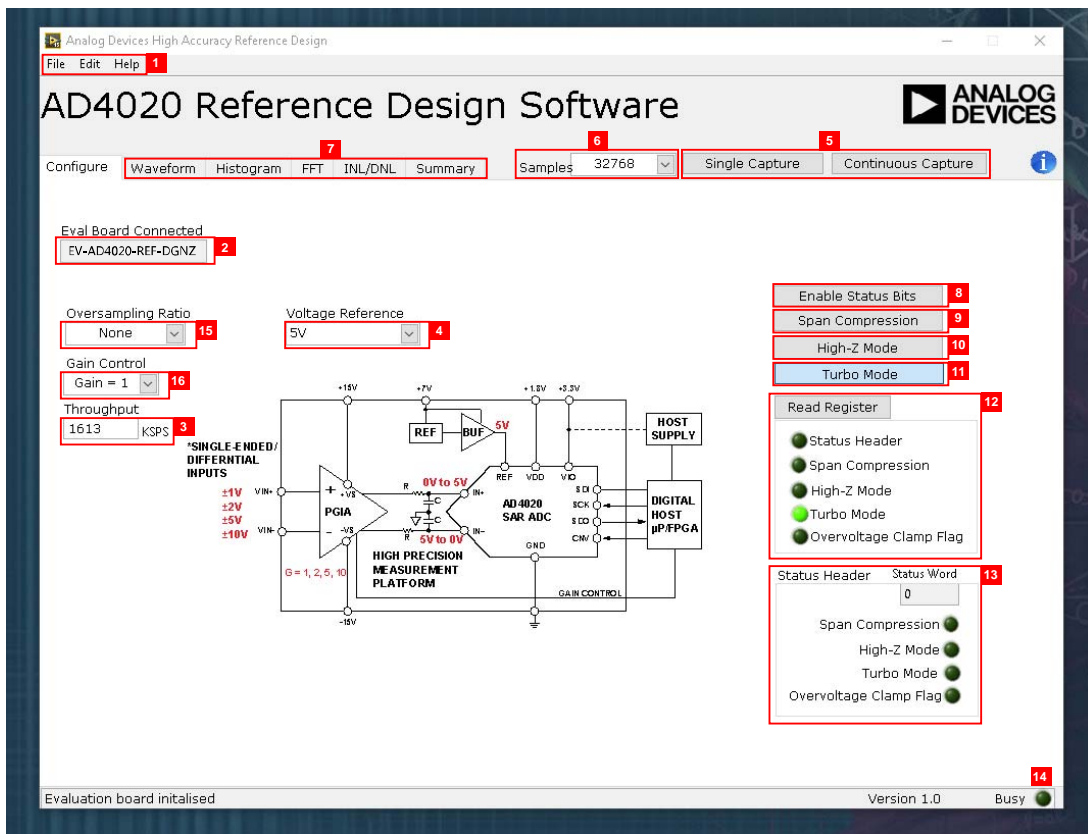

Figure 23. AD4020 Reference Design Software Setup Screen
4. When the EV-AD4020-REF-DGNZ reference design board is detected, the software panel opens and the AD4020 reference design software looks for the hardware connected to the PC. The AD4020 reference design software detects the generic device attached to the PC and the product panel launches, as shown in Figure 23.
The **File** menu (Label 1 in Figure 23) provides the following commands:
The **Edit** menu (Label 1 in Figure 23) provides the **Reinitialize to Default Values** command to reset the AD4020 reference design software to the initial state.
The **Help** menu (Label 1 in Figure 23) provides the following four options that offer specific information:
When hardware is connected to the USB port, the AD4020 reference design software automatically detects which generic board is connected and displays this board in the **Eval Board Connected** dropdown menu (Label 2 in Figure 23).
The **Throughput** pane (Label 3 in Figure 23) is where the user enters the throughput value. The default throughput (sampling frequency) is 1.75 MSPS. The minimum throughput is 10 kSPS. When the user enters a value larger than the ability of the existing device, the software reverts to the maximum throughput.
Clicking on the **Voltage Reference** dropdown menu (Label 4 in Figure 23) allows the user to select a reference value. By default, the reference is 5 V (on-board reference). The minimum and maximum voltage calculations are based on the reference voltage. When the user changes the reference voltage, they must change the input accordingly.
Click **Single Capture** (Label 5 in Figure 23) to perform a single capture of data, and click **Continuous Capture** (Label 5 in Figure 23) to perform a continuous stream capture from the ADC.
Select a value from the **Samples** dropdown menu (Label 6 in Figure 23) to analyze data according to the number of samples. The maximum number of samples the AD4020 reference design software can support is 524,288.
Five capture tabs (Label 7 in Figure 23) display the data in the following formats: waveform, histogram, FFT, INL/DNL, and summary.
Click **Enable Status Bits** (Label 8 in Figure 23) to enable the status header content. Status bits can be clocked out at the end of the conversion data using six extra clocks when the status header content is enabled. Click **Enable Status Bits** (Label 8 in Figure 23) to enable the six status bits. Click **Single Capture** or **Continuous Capture** (Label 5 in Figure 23) to display the content of the six status bits in the **Status Header** pane (Label 13 in Figure 23). The overvoltage clamp flag status bit updates on a per conversion basis.
Click **Span Compression** (Label 9 in Figure 23) to enable the ADC span compression feature. In single-supply applications, the use of span compression increases the headroom and footroom available to the ADC driver by reducing the input range by 10% from the top and bottom of the range while still accessing all available ADC codes.
Click **High-Z Mode** (Label 10 in Figure 23) to enable the internal high-Z mode. Enabling this mode allows a low input current for the ADC and improves total harmonic distortion (THD) performance using low power and bandwidth precision ADC drivers for slow, dc type signals.
Click **Turbo Mode** (Label 11 in Figure 23) to enable turbo mode and run the ADC at a full throughput of 1.8 MSPS.
Click **Read Register** (Label 12 in Figure 23) to see if any easy to use features are enabled. The easy to use features include span compression, high-Z mode, turbo mode, an overvoltage condition (sticky bit), and the status bits.
When the **Busy** indicator (Label 14 in Figure 23) is illuminated, the user must wait until the AD4020 reference design software completes the data analysis to ensure complete data capture.
- If the EV-AD4020-REF-DGNZ reference design board does not appear to be functioning, ensure that the EV-AD4020-REF-DGNZ reference design board is connected to the SDP-H1 controller board, and that the EV-AD4020-REF-DGNZ reference design board is recognized in the **Eval Board Connected** box, as shown in Figure 23.
- If no data is read back, confirm that the EV-AD4020-REF-DGNZ reference design board is connected to the SDP-H1 controller board and that the board is being recognized in the **Eval Board Connected** pane, as shown in Figure 23.